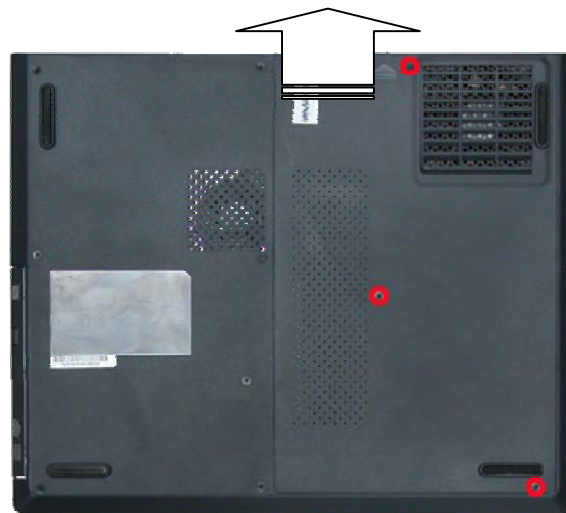

Fig. 1 Removing Bottom cover door
3. Unscrews the bottom cover door and slide it out of its place as the arrow shows in Fig. 1